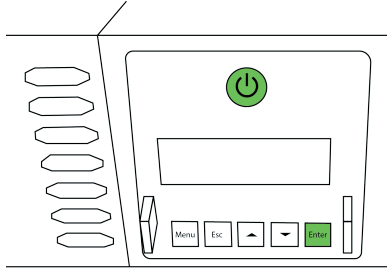

Figure 6-32. Turning on the UPS
1. Plug the AC power cord of the UPS into the power source and press the large power button and then the **Enter** button (Figure 6-32).